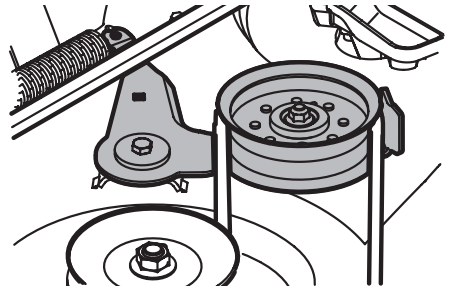

Figure 40
8. Working on the right side of the tractor, insert a 3/8 inch drive ratchet wrench, set to **tighten**, into the square hole found on the idler bracket (Figure 40).
9. Pivot the wrench forward to move the deck drive pulley forward (Figure 40).